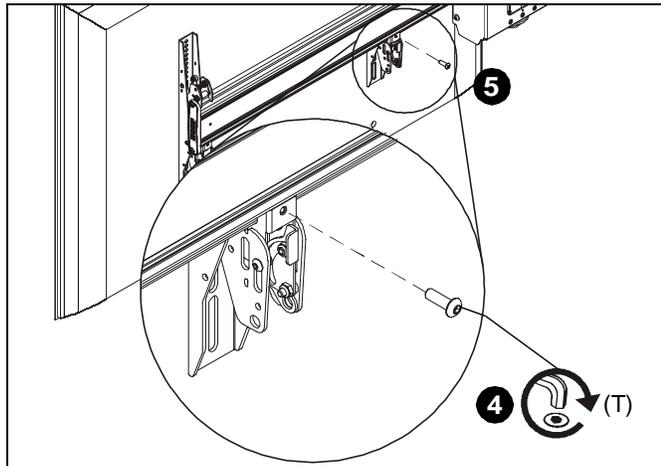

Figure 10
4. Fasten bracket against ceiling mount extrusion using one 10-24 x 5/8" button head cap screw (T). (See Figure 10)